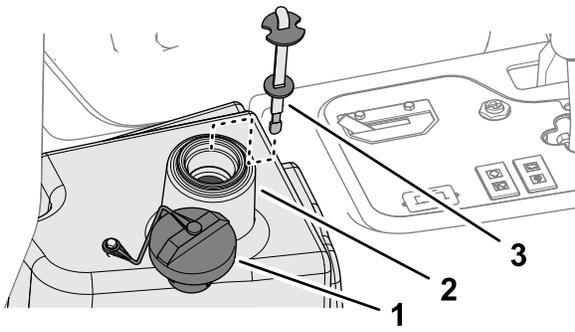

Figure 84
2. Clean the area around the filler neck and cap of the hydraulic-fluid tank (Figure 84) and remove the cap.